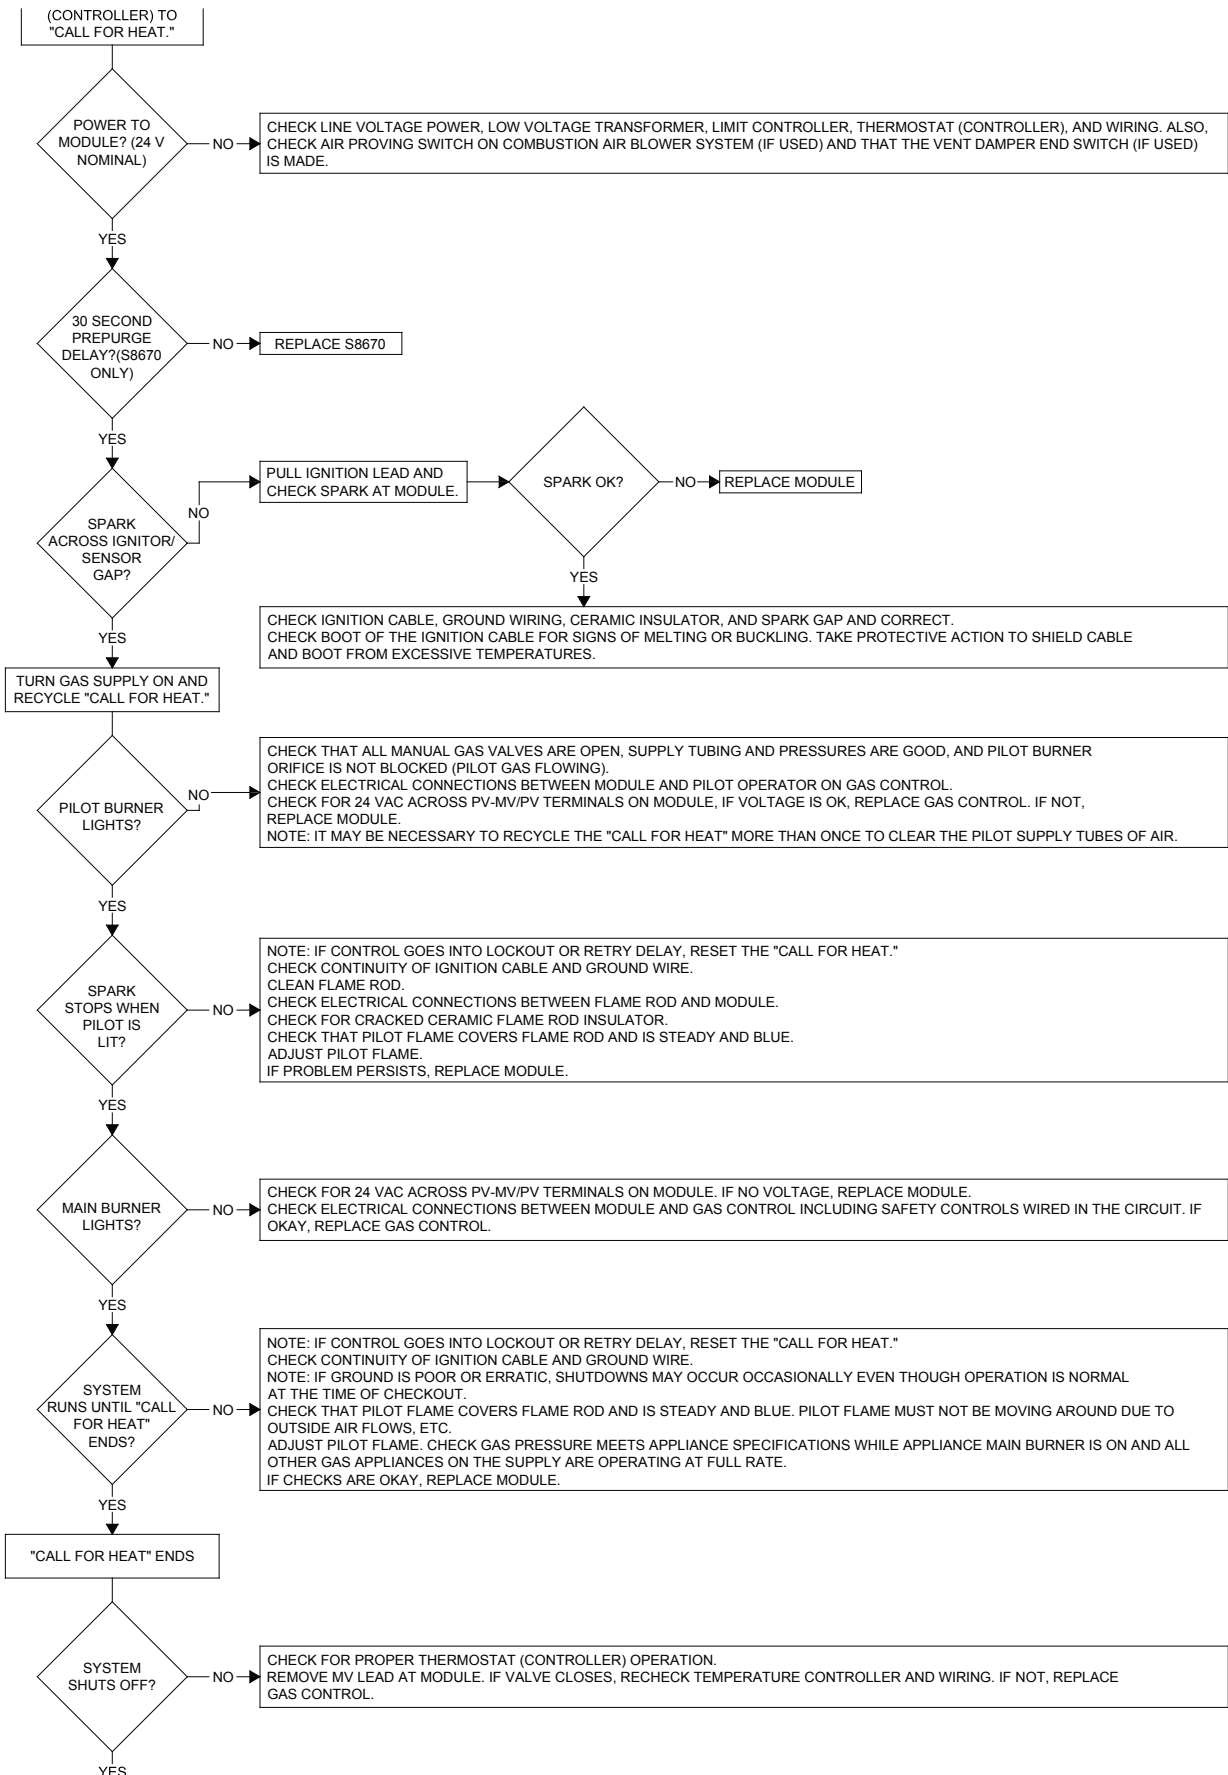

Figure 38: Troubleshooting Guide
- v. If main burners do not light or if main burners light but system locks out, check the module ground wire and gas control as described in Figure 38 "Honeywell Electronic Ignition Troubleshooting Guide".